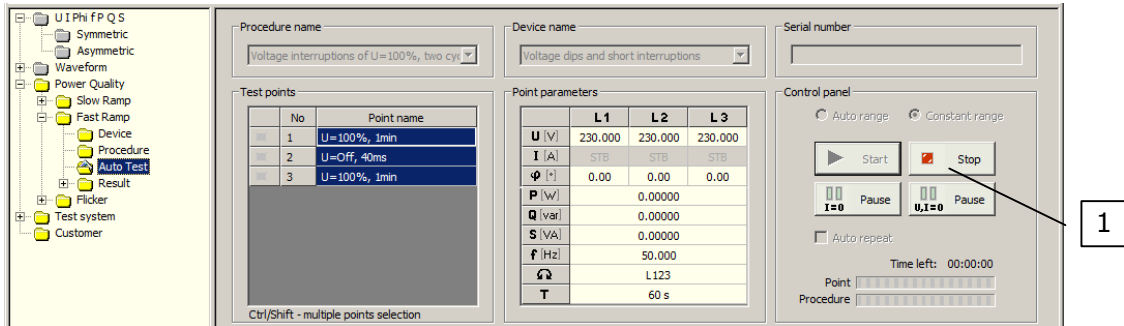

Fig.2.5. Autotest function with procedure in progress
When the procedure is in progress the user can abort a procedure (in any time) by the *Stop* button (pos.1 Fig.2.5).